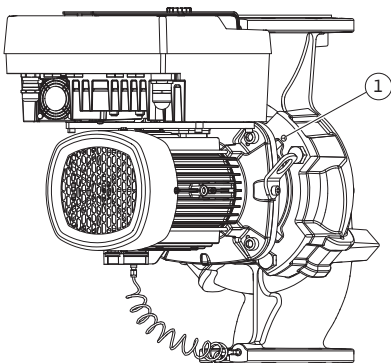

Fig. 11: Pressing off the motor impeller unit via threaded holes (DN 100 ... DN 125)
5. Detach the motor impeller unit (see Fig. 4) from the pump housing. Depending on the pump type (see Fig. I ... III), there are various different approaches. For the pump type Fig. I (DN 32 ... DN 80), loosen the screws (Item 29). Press the motor impeller unit off the pump housing. For pump type Fig. II and Fig. III (DN 100 ... DN 125) use the two threaded holes (Fig. 11, Item 1). Use suitable screws provided on-site (e.g. M10 x 25 mm) for this.
5. Press the motor impeller unit (see Fig. 4) off the pump housing. Use the two threaded holes for this (see Fig. 11). Screw M10 screws with a suitable length into the threaded holes to loosen the seat.